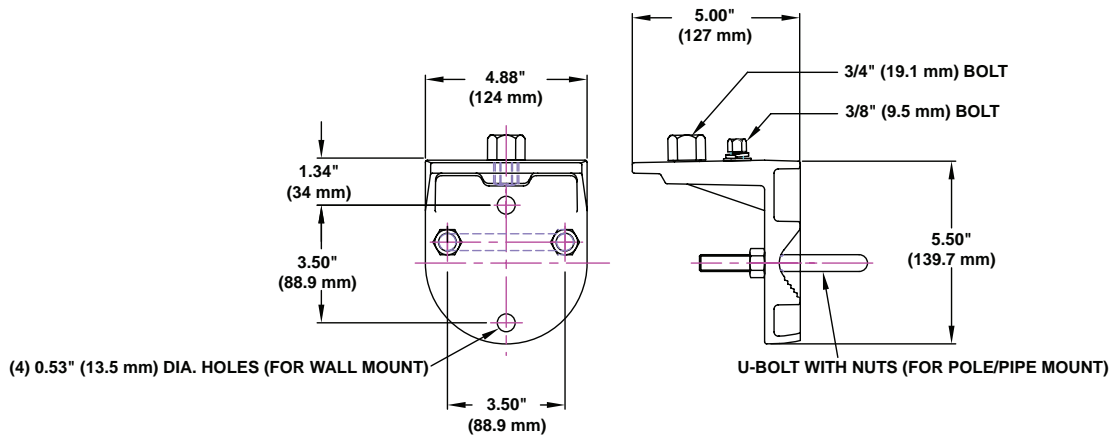

Figure 6: Support de montage sur tube/mural (P/N: G-AM-8-WB)
3. Mount the pipe/wall mount bracket to a flat surface with user-supplied hardware or clamp to a pipe or pole [1 inch (25.4 mm) to 2-1/2 inch (63.5 mm)] with U-Bolt and nuts (supplied). Tighten nuts to secure in position. See Figures 6 & 7.